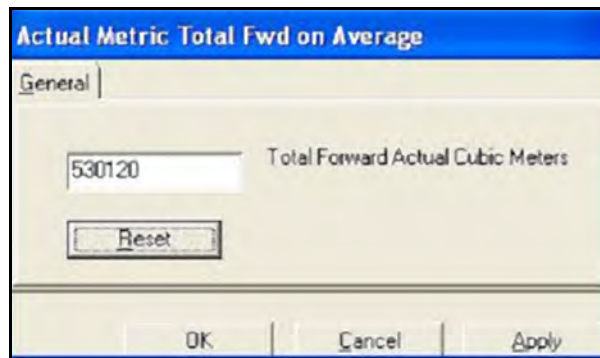

Figure 68: Actual Metric Total Fwd on Average
3. Click on Properties. The current total will be displayed (see *Figure 68* below).